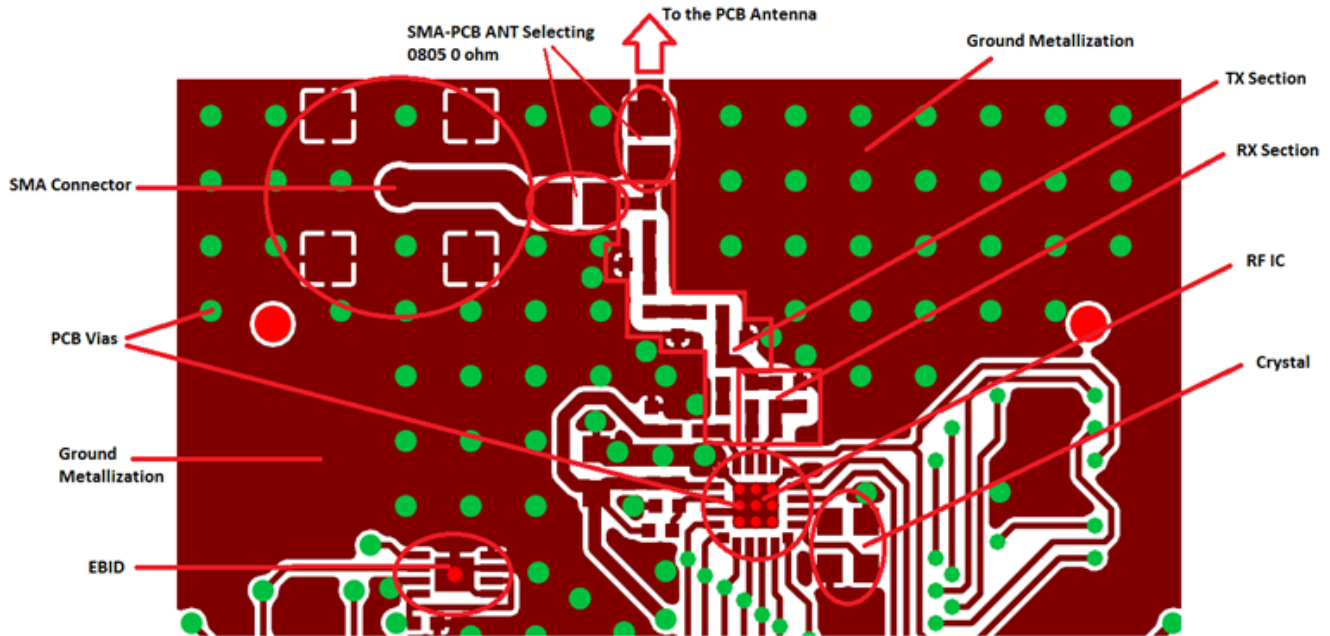

Figure 10. Layout Structure of the RF Part of the 4455-LED-434 (4455CLED-434) Development Board
- On the RF Stick there is an option to select between the PCB antenna or the SMA connector (with a 50 Ω SMA antenna) by soldering a 0805 size of 0 Ω resistor to the proper side (see the SMA-PCB ANT selecting 0805 0 Ω in Figure 10). On these boards, the only route where 50 Ω coplanar transmission line is used is between one of the 0805 resistors and the SMA connector since the output of the matching network is very close to the 0805 resistors.
Figure 10 demonstrates the layout structure of the RF part of the Si4455-LED-434 (Si4455CLED-434) development board.